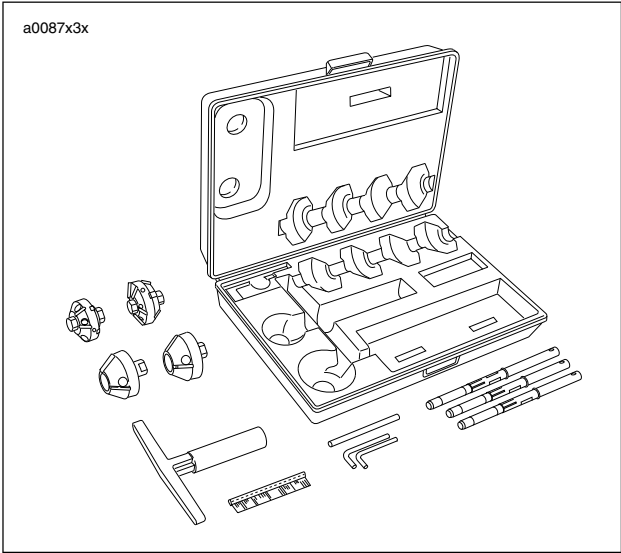

Figure 3-58. Valve Seat Cutter
- See Figure 3-58. Cut 46° (or grind 45°) valve seat angle first. Use cutting oil to avoid chatter marks. Cut or grind only enough to clean up the seat.